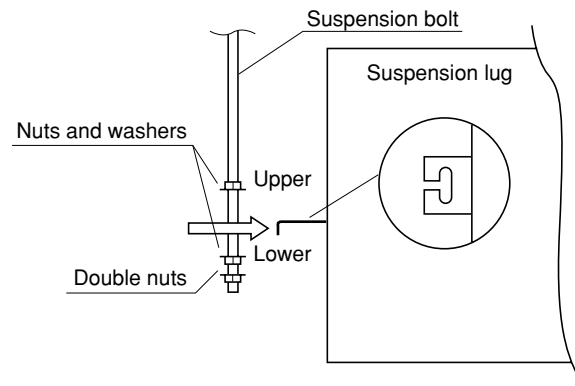

Fig. 3-23
- (2) Thread the 3 hexagonal nuts and 2 washers (field supply) onto each of the the 4 suspension bolts as shown in Fig. 3-23. Use 1 nut and 1 washer for the upper side, and 2 nuts and 1 washer for the lower side, so that the unit will not fall off the suspension lugs.
- (3) The indoor unit should be suspended from the suspension bolts (Fig. 3-23) so that the distance between the bottom of the suspension lug and the bottom surface of the ceiling is 30 to 40 mm.